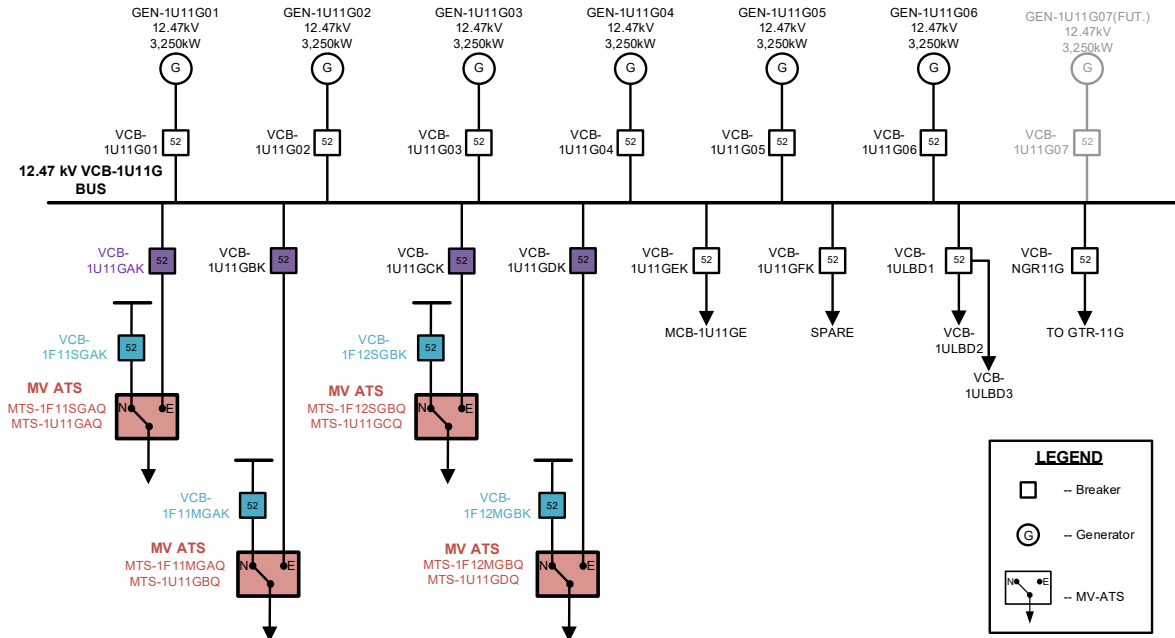

Figure 2-1: Simplified One-Line of VCB - 1U11 Generator System
The Samsung Taylor, FAB-I power system consists of total sixteen (16) numbers of 12.47kV MV-ATS switchgear. Each MV-ATS is fed from normally closed utility breaker and can be transferred to normally open emergency generator source breaker manually or automatically using SEL-700GT intertie relays. Figure 2-1 to 2-3 shows the simplified one-line diagram of the MV-ATS and how they are connected to three different generator buses.